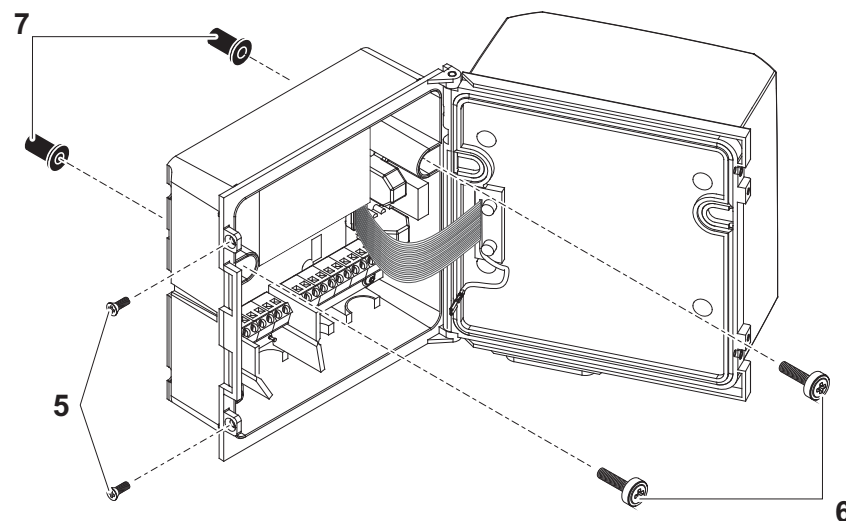

figure 3-6 Mounting the sun shield: Premounting the ISO blind nuts
- 2 Remove the two countersunk screws (pos. 5 in figure 3-6) and swing open the lid.
- 3 Insert the cheese-head screws (pos. 6 in figure 3-6) with the plastic washers in the drilled mounting holes and loosely screw in the ISO blind nuts (pos. 7).
- 4 Position the universal transmitter on the sun shield and fix it into place with the two screws (pos. 6 in figure 3-6).
- 5 Close the lid and fix it with the two countersunk screws (pos. 5 in figure 3-6).